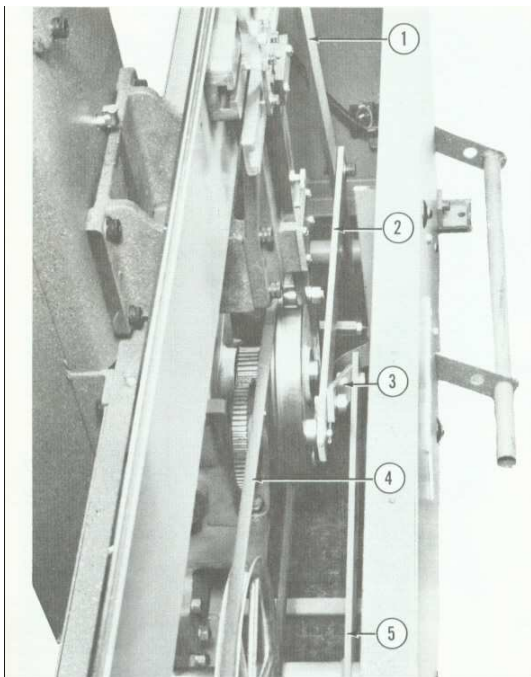

Fig 1
1. Cycle machine until connecting rod (Fig.1, ref.2) is fully back, far right.